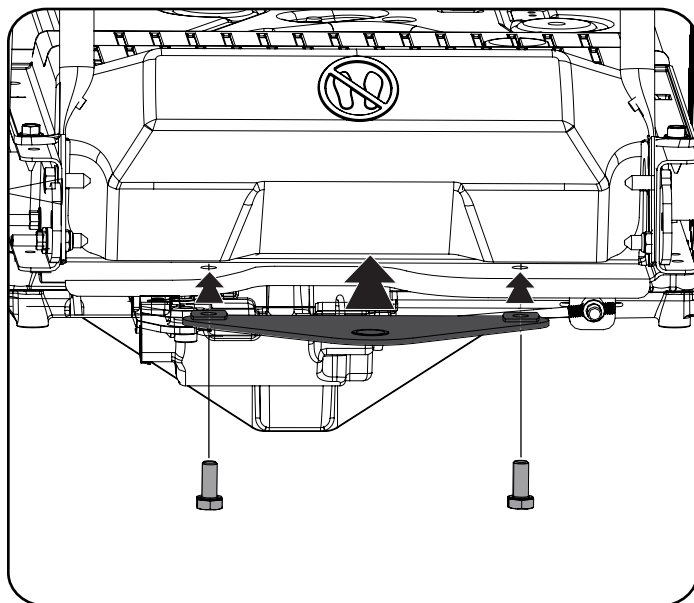

Figure 13
1. Slide the hitch plate in between the frame and the rear cover on your rider. See Figure 13.
2. When the holes in the hitch plate and the frame are aligned, install the two hex screws from the manual bag up through the frame and into the hitch plate. See Figure 13.